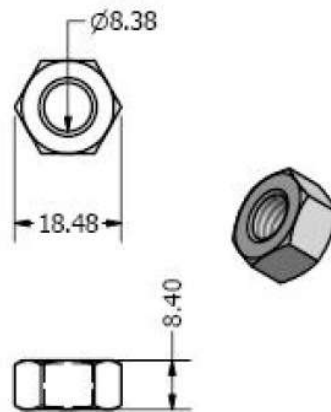

Figure 4 : Cargo Dimensions (in mm)
- 3.6. The cargo to be lifted will be marbles in the case of ROV and nuts for AUV as shown in Figure 4. The marbles are ceramic in nature and will have a diameter of around 15 – 17 mm weighing 3 to 7 g each. The nuts will be ferromagnetic and weigh between 10g to 20g.